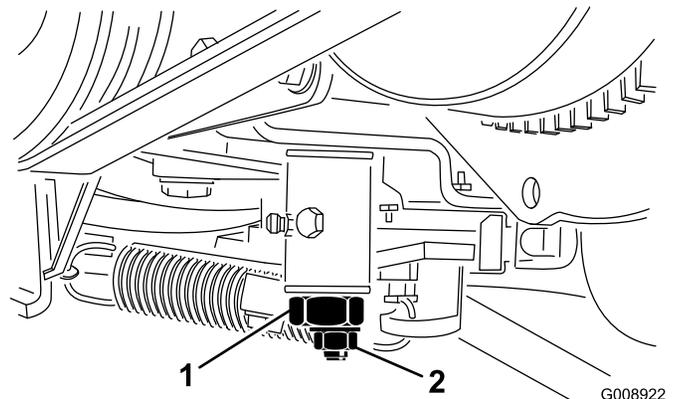

Figure 53
2. Loosen the throttle-cable connector on the injection-pump lever arm (Figure 53).